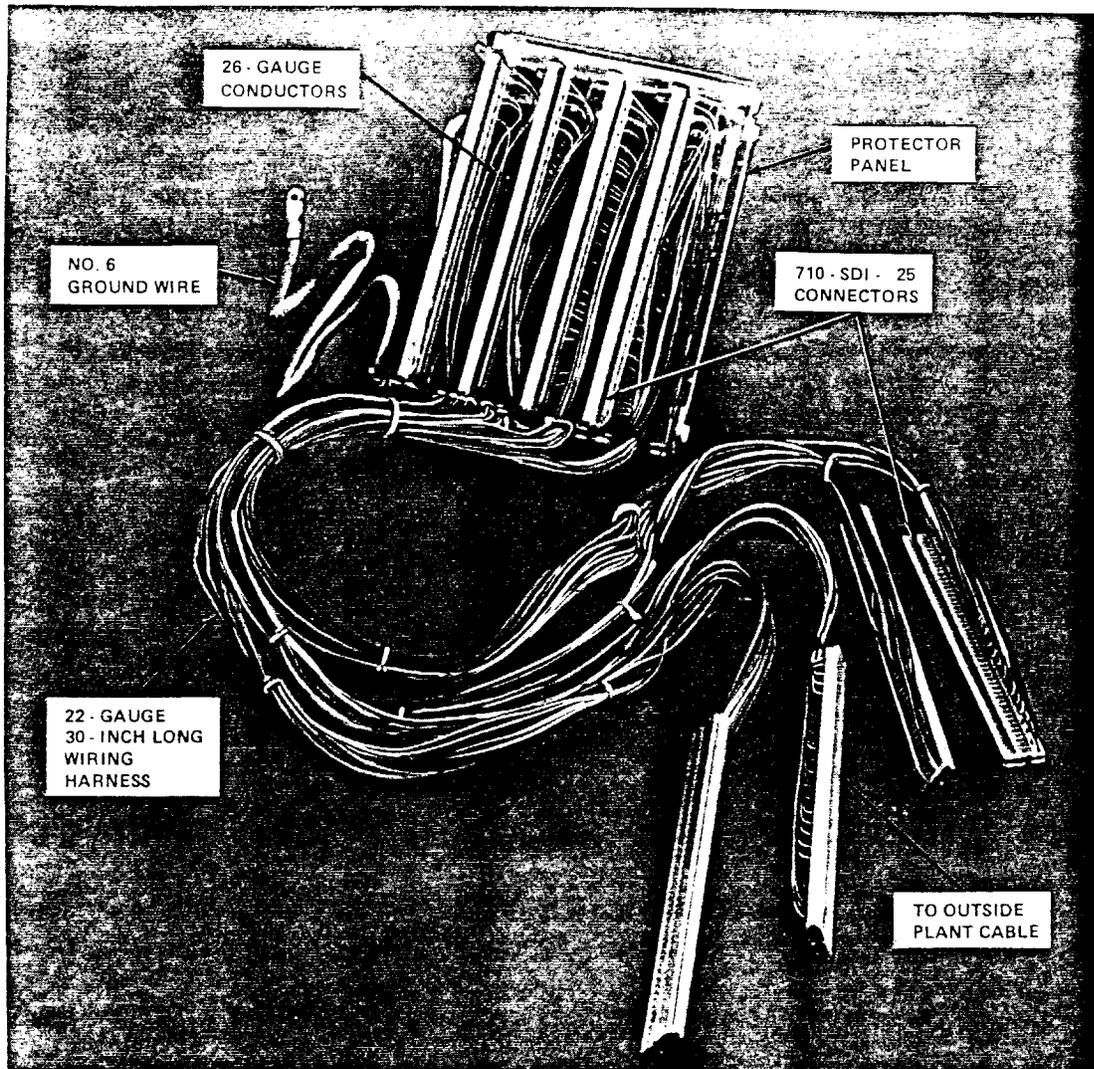

Figure 6. 307C2-100 Connector
2.05 The 307C2-100 connector (Figure 6) is intended for use in the AT-9049 type protector and cable enclosures used in **SLC** 96 carrier remote terminal applications. It is similar to the 307C1-100 connector except for the gauge size of the conductors. As with the 307C1-100 connector, the 307C2-100 connector is arranged with two sets of splice 710-SD1-25 connectors. One set of four connectors (J1 through J4) is attached to a 30-inch (76.2 cm) long, 22-gauge (0.6 mm) wire harness and serves as an interface to the outside plant cable. The other set of four connectors (J5 through J8) is terminated with 26-gauge (0.4 mm) conductors and used for connecting to intermediate derived and digital cables.